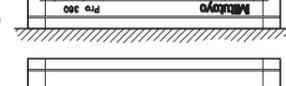

FIG. 4
- Rotate the DIGITAL PROTRACTOR so it faces away from you, the lettering should still be upside-down. (See Fig.4)